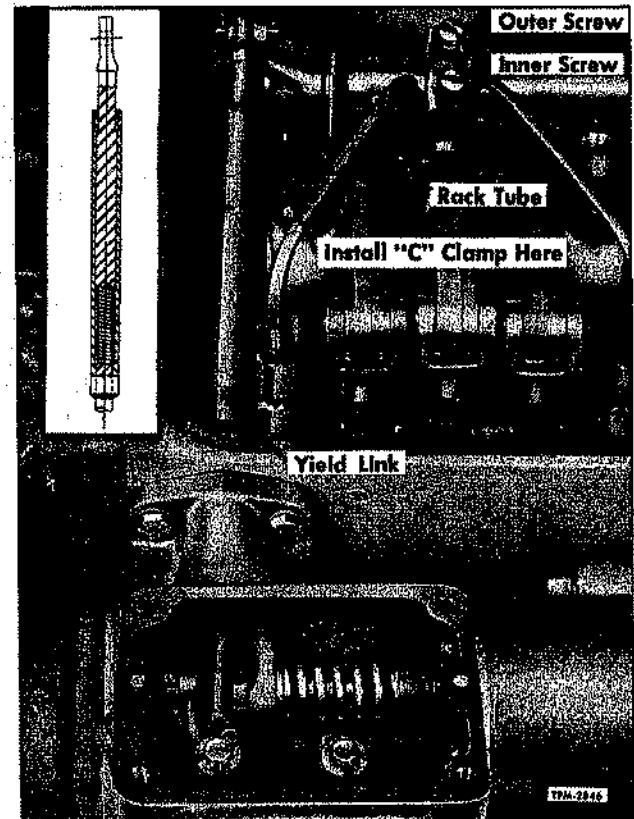

Figure 58—Governor to Injector Rack Yield Link
The position of the injector racks must be correctly set in relation to the governor. Their position determines the amount of fuel injected into each cylinder and insures equal distribution of load. Refer to figure 58 and proceed as follows:
3. Loosen inner and outer adjusting screws (fig. 58) of all injector rack control levers several turns. Be sure all levers "swing freely" on injector control tube.
4. On coaches using hydraulic transmission a yield link is used between governor and injector control rack (fig. 58). Whenever positioning injector rack on vehicles equipped with yield link it is necessary that a small "C" clamp be used at the rod shoulder to provide a temporary solid rod. This is important since it prevents possibility of compressing yield link spring.